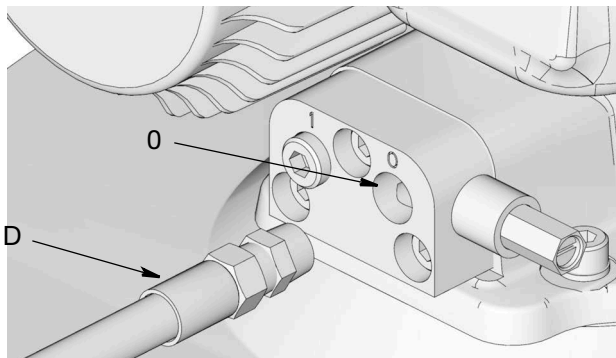

FIG. 63: Lubricant Outlet Connection
- Connect the timer/controller (F) (user supplied, if used).
- Connect high pressure lubricant supply line (D) to the lubricant output connection (O) (FIG. 63) on the vent valve or manifold.